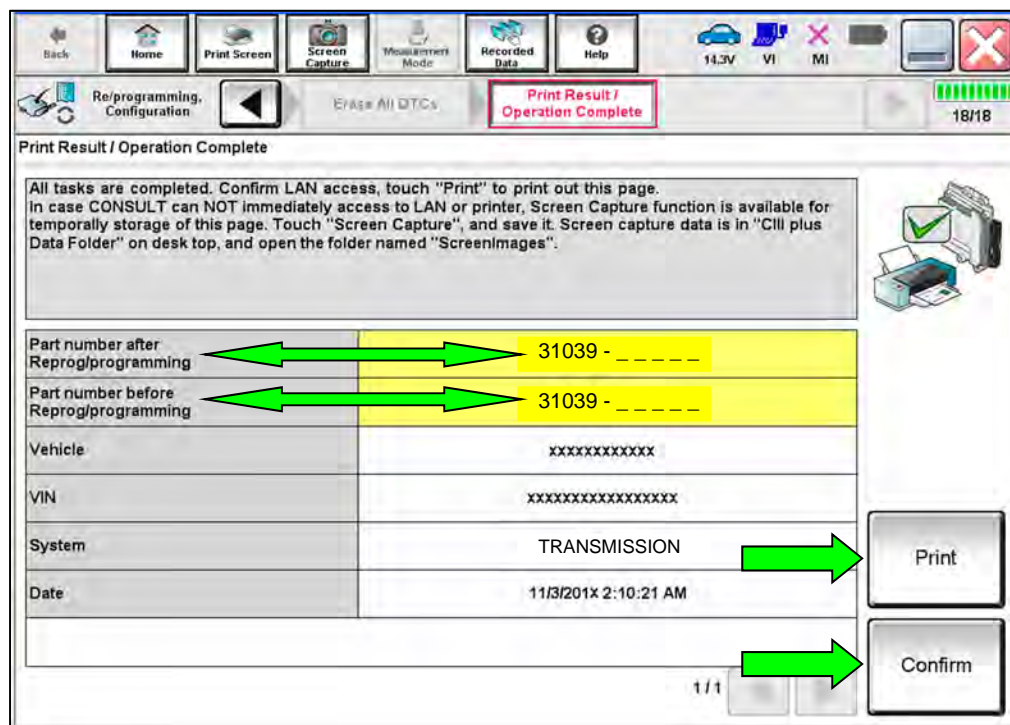

Figure 20
- When the entire reprogramming process is complete, the screen in Figure 20 will display.
22. Print a copy of this screen (Figure 20) and attach it to the repair order for warranty documentation.